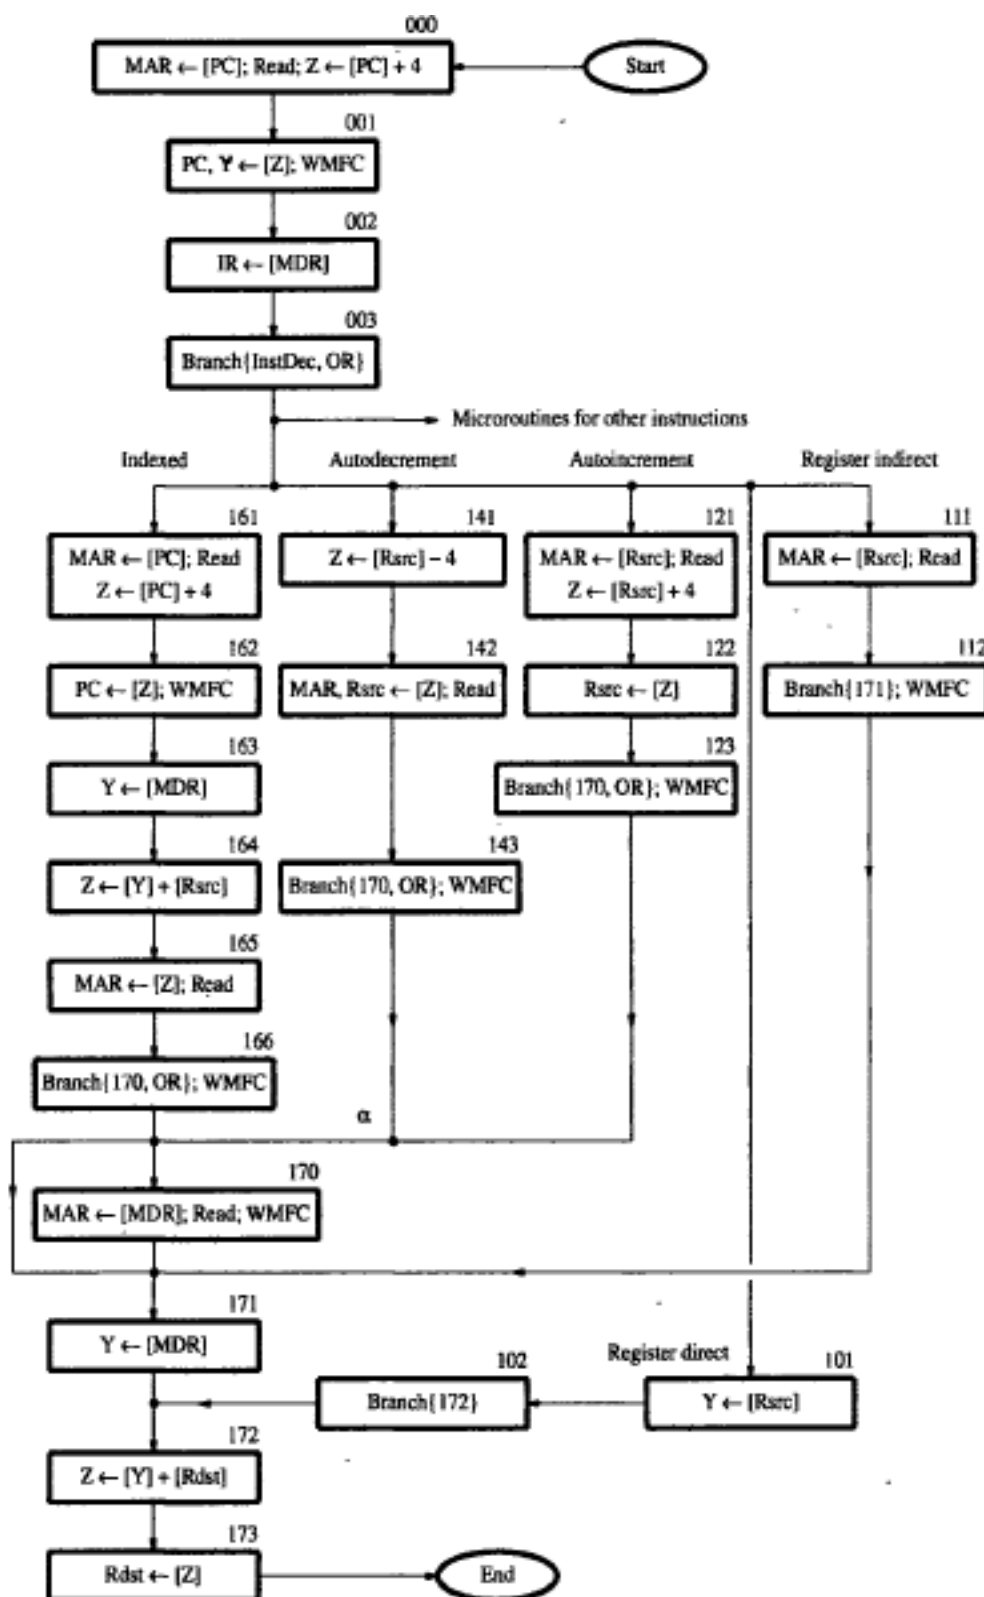

Figure 7.20 Flowchart of a microprogram for the `Add src, Rdst` instruction.
- Let source-operand can be specified in following addressing modes (Figure 7.20):